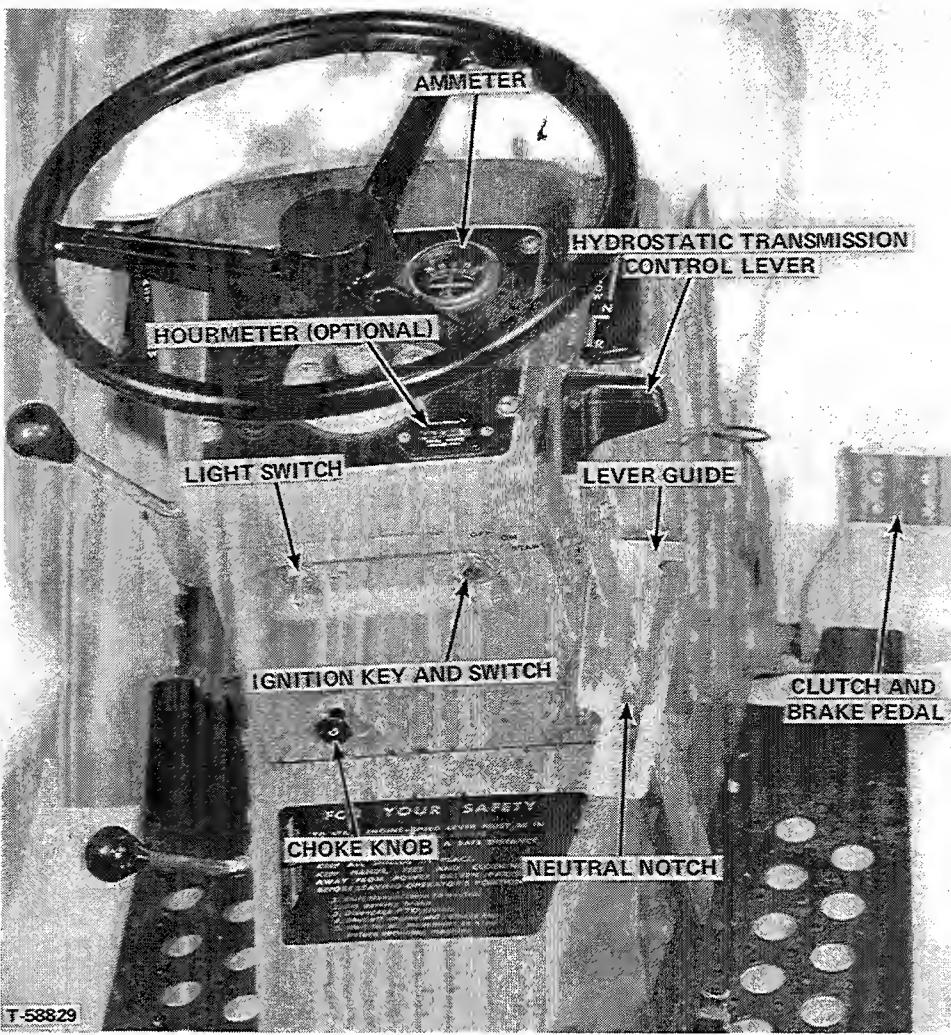

FIGURE 5 - Hydrostatic Transmission Tractors
1. HYDROSTATIC TRANSMISSION CONTROL LEVER (Figure 5)
3. LIGHT SWITCH (Figure 5)